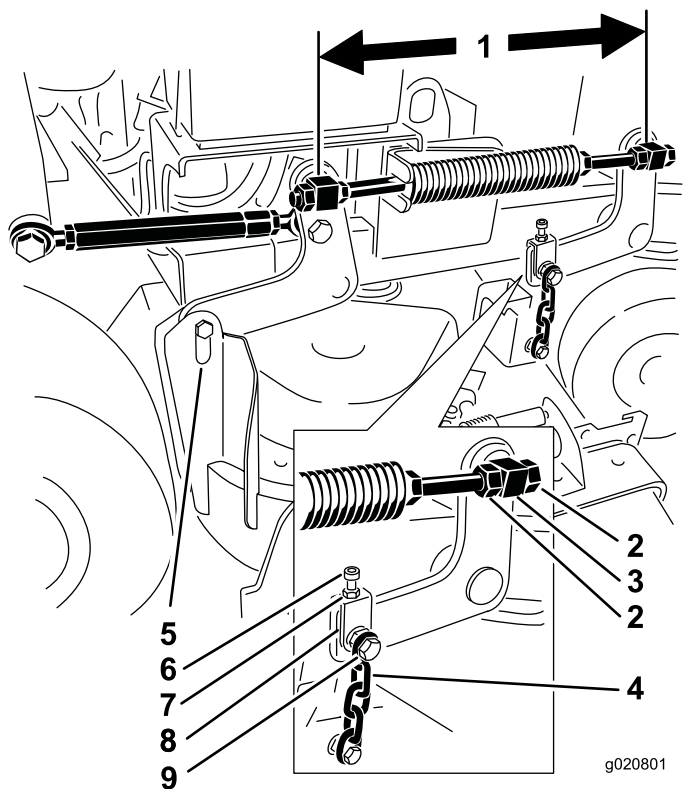

Figure 78
1. Check the distance between the swivels, measuring at the center of the swivels (center-to-center length) on each threaded rod (Figure 78).
2. Loosen the jam nuts at the **front** swivel (Figure 78).
4. Tighten the jam nuts at the **front** swivel (Figure 78).
6. If adjustment is needed, loosen the upper chain bolt (Figure 78).
4. Loosen the jam nuts at the right and left front swivels (Figure 78).
6. Tighten the jam nuts at the right and left front swivels (Figure 78).
4. Loosen the jam nuts at the left, front swivel (Figure 78).
6. Tighten the jam nuts at the left front swivel (Figure 78).
5. Loosen the upper chain bolts (Figure 78).
6. Loosen the jam nuts on each yoke (Figure 78).
8. Tighten the jam nuts and upper chain bolts (Figure 78).